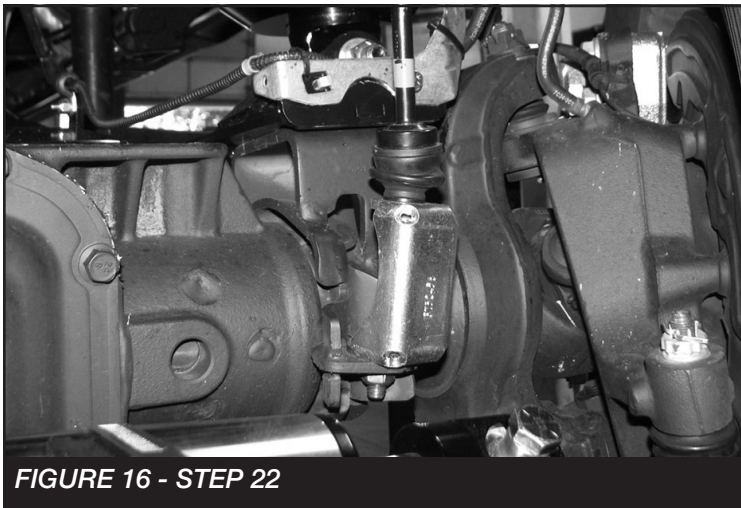

FIGURE 14 - STEP 19
19. Install the resi can to the resi mount using the supplied clamps. SEE FIGURE 14